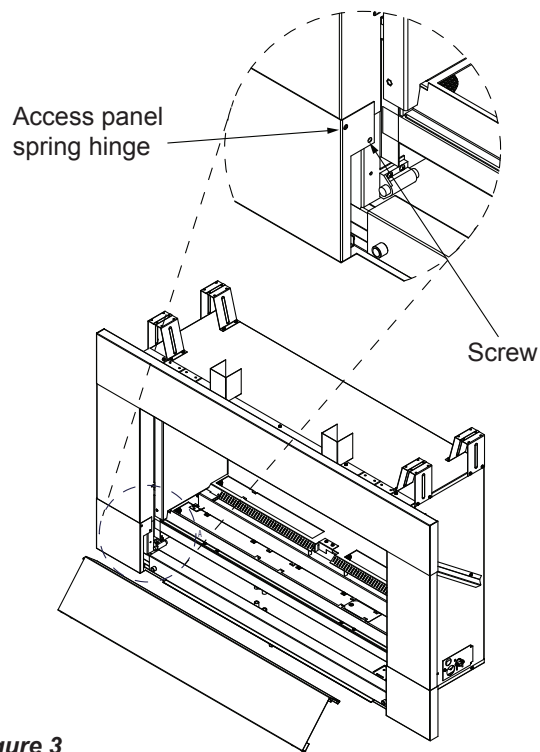

Figure 3
6. Locate the two screws inside the bottom panel. See *Figure 3*. Tighten slowly only until gap is eliminated using supplied #8 x 3/8" .
9. Install face by inserting tabs on face into slots on front of firebox. Secure with four (4) supplied screws on both bottom tabs and both top tabs. Reinstall top three interior screws.
10. Reinstall original screen frame and the replacement access panel. *Figure 3*